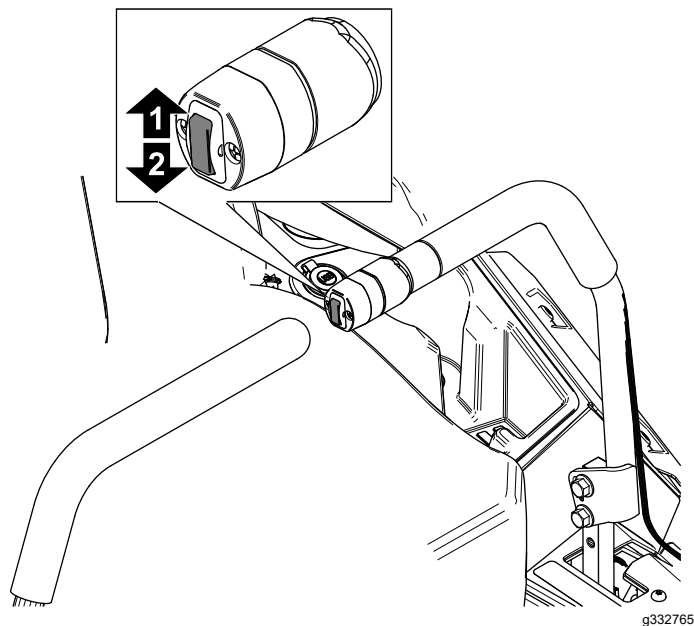

Figure 31
1. Push up on the deck-lift switch (Figure 31).